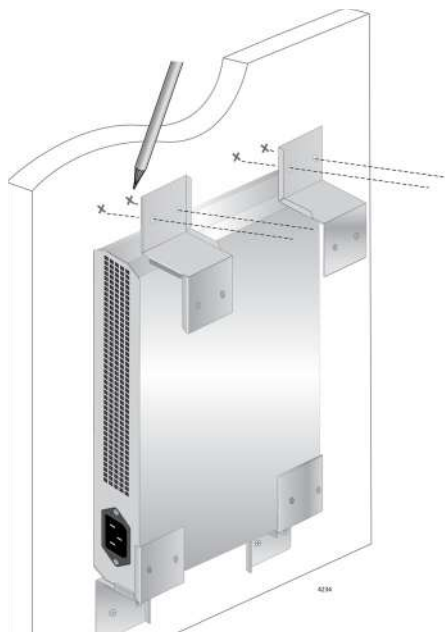

Figure 61. Marking the Screw Hole Locations
9. Place the other two brackets on the top of the switch and mark the screw hole locations with a pencil as shown in Figure 61.